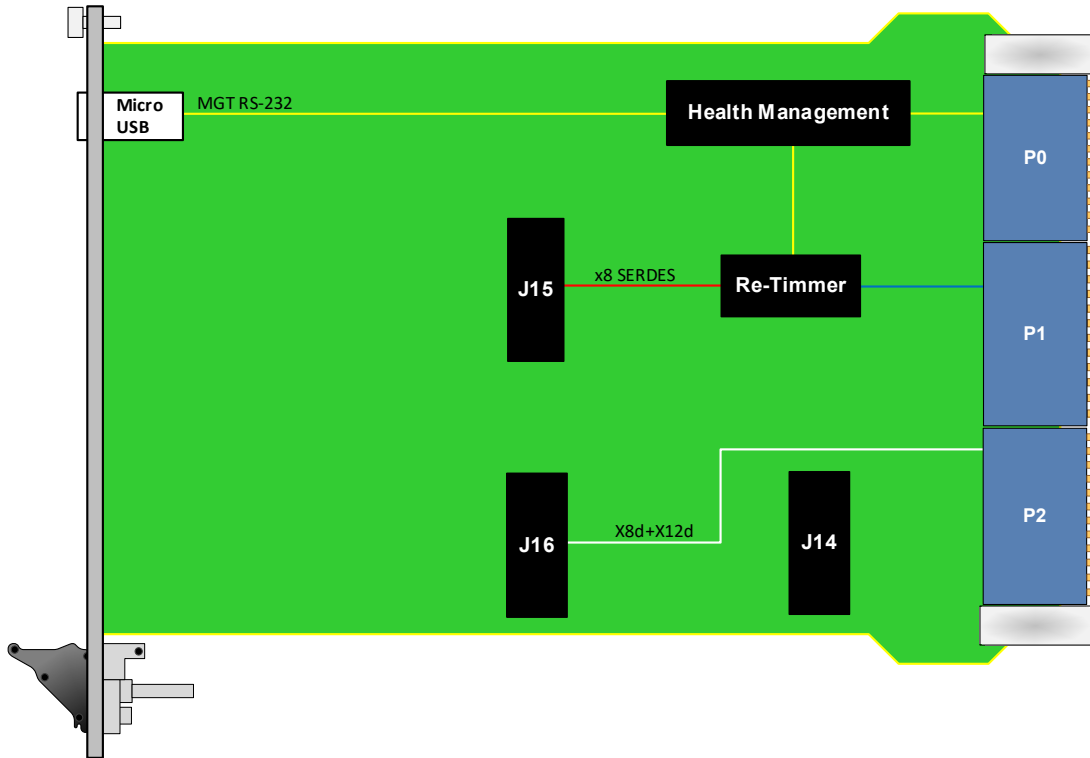

Figure 4: VPX102 Functional Block Diagram, Option C=2
- P2w1-X24s+X8d+X12d (Figure 4)